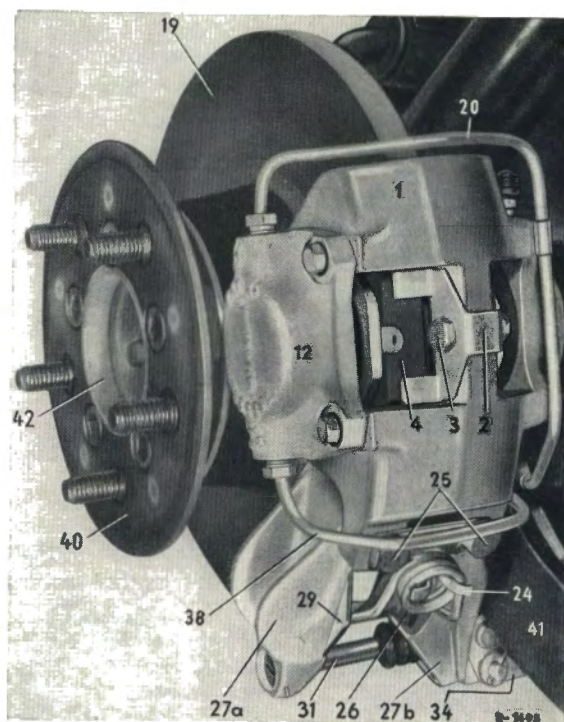

Fig. 42-25/2
6. Put a new locking plate (24) on the swing bolt (25) (Fig. 42-25/1).